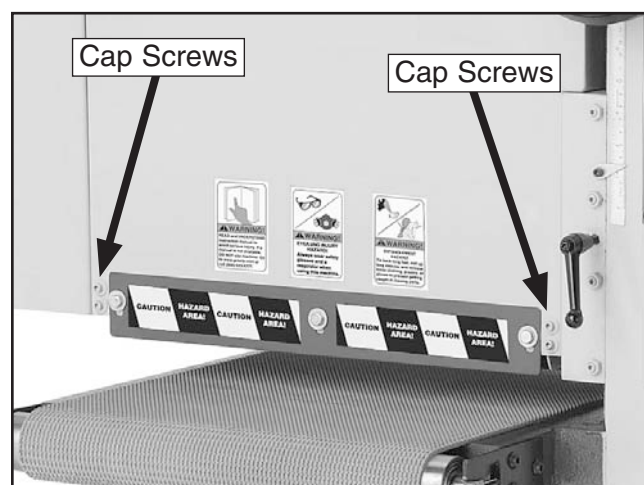

Figure 40. Pressure roller cap screws (front pressure roller cap screws shown)
5. Loosen the eight cap screws securing the front and rear pressure rollers to the sanding cabinet (see **Figure 40**).